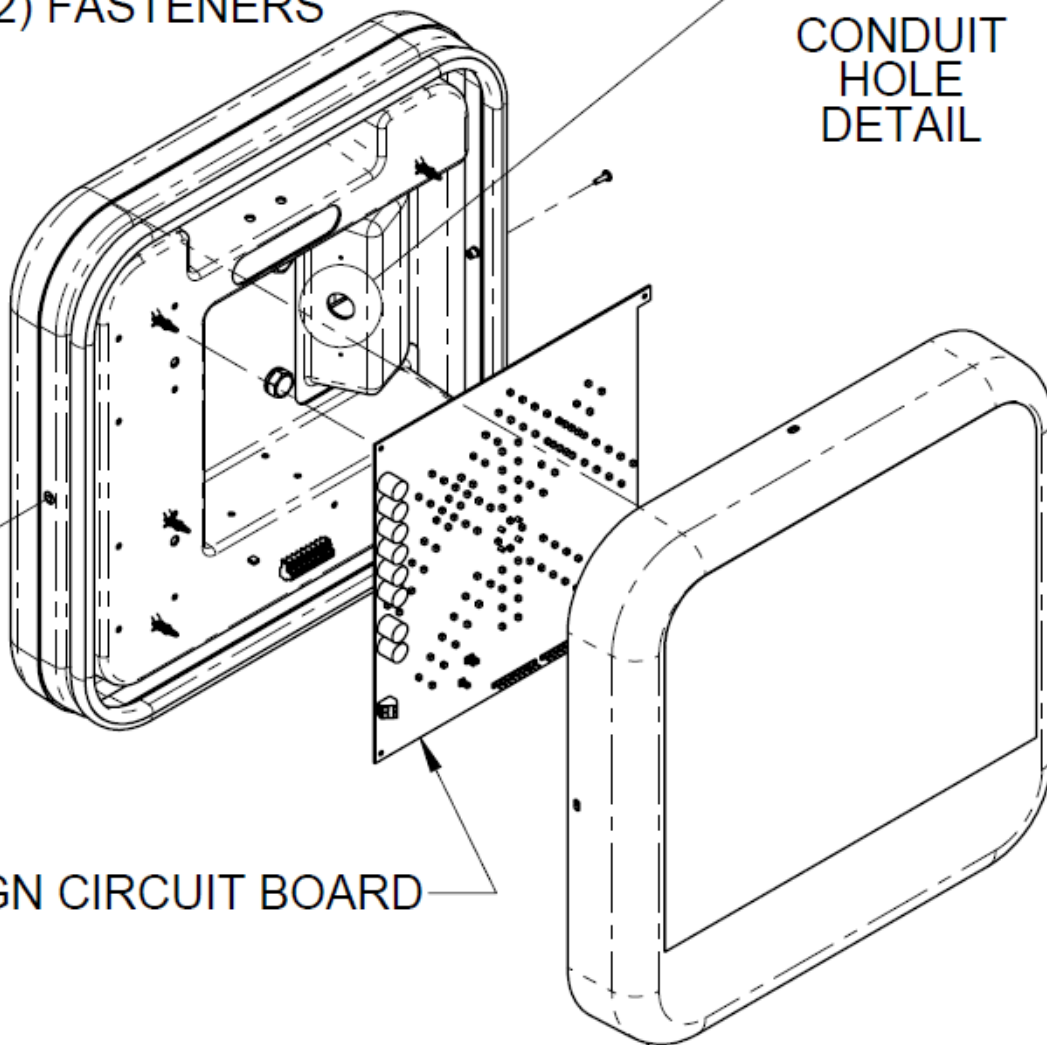

Figure 176 - Entrance Sign Preparation for Installation
- To add the connector to the Entrance sign housing (see Figure 176):